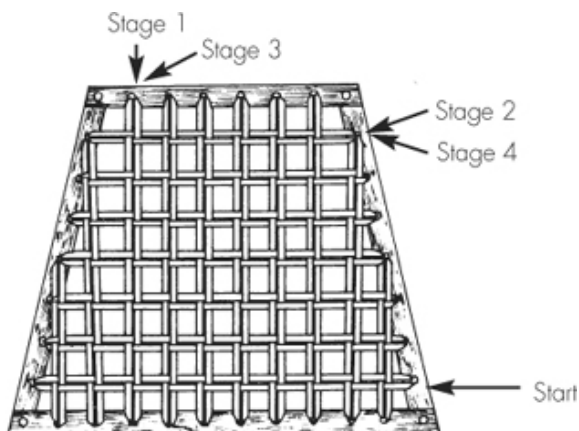

fig. 5
14. Weave the cane over the first and under the second cane of each pair of vertical canes. Make sure that it is placed to the front of the horizontal canes of Stage 2. Do not pull the cane through more than four vertical pairs at a time or you may break them. See Figure 5.
16. Weave the cane back to the right, under the first and over the second cane of each pair of vertical canes. Continue in this manner until you have filled all of the holes in the side rails, except the corner holes. Refer to Figure 5. Remember to place the canes to the front of the horizontal canes of Stage 2.